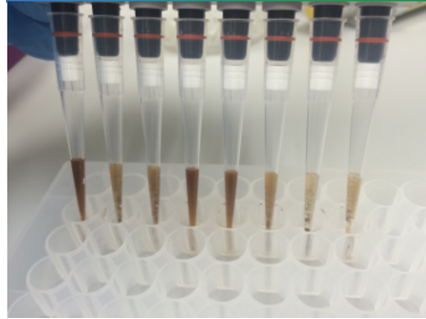

Figure 6: Multichannel pipette tips showing magnetic beads resuspended in elution buffer.
**Note: The re-suspensions may appear varied in their appearance, but the result will be the same. See Figure 6.**